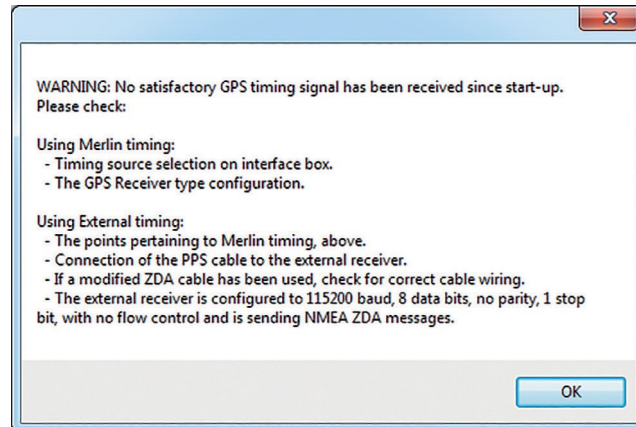

Figure 45 Warning message: no timing received
**Note:** If timing is never received, a warning appears: see Figure 45. The listed actions should be verified to resolve the timing issue.